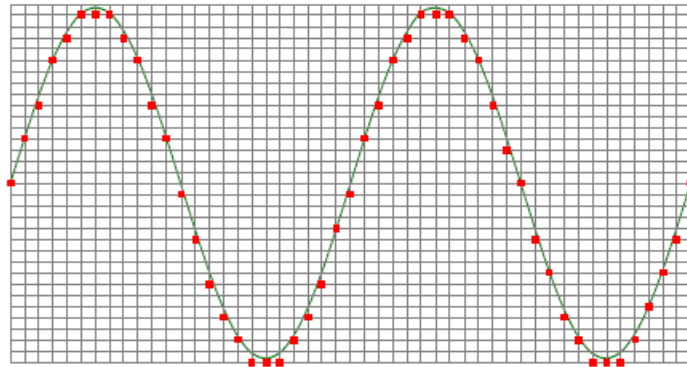
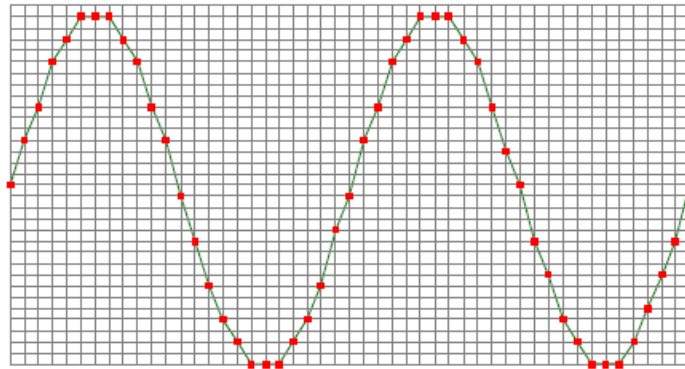

Figure 3.1: Sampling
Figure 3.2: "connecting" the samples
- The sine wave in figure 3.1 is sampled at the dot positions. By connecting the adjacent samples, the original signal can be reconstructed from the samples. You can see the result in figure 3.2.